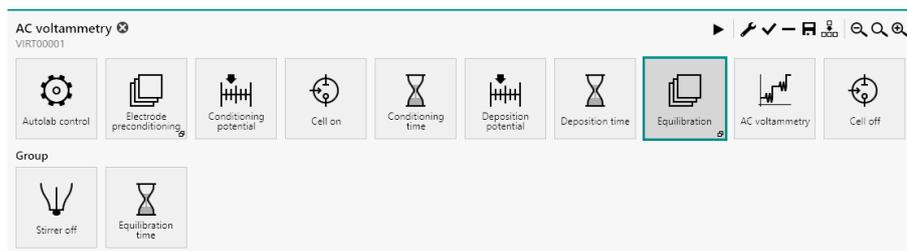

Figure 662 The Equilibration group
- **Equilibration:** this command group is used to create an equilibration step in the procedure. The commands in this group are used to switch the stirrer off and wait for the specified amount of time (*see figure 662, page 552*).